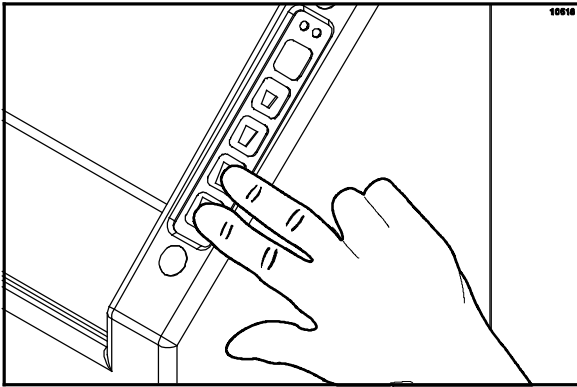

Figure 31
2. Simultaneously press the Large and Extra Large keys to dispense water only. Hold the keys for 2 - 3 seconds, or until all the concentrate has been flushed out of the mixing chamber and only clear water is being dispensed. (See Figure 31.)